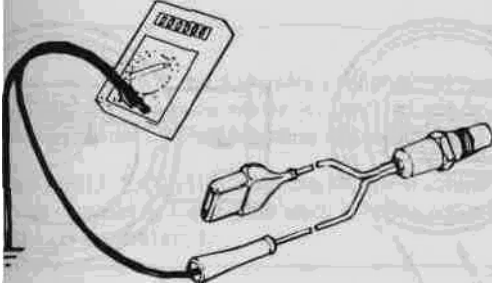

Fig. 21. Oxygen sensor output voltage being checked (shown schematically). Sensor should be installed and the engine should be running,
- Connect the positive lead of a voltmeter to the black wire coming from the sensor and connect the negative meter lead to chassis ground. See Fig. 21. Start the car and let it idle. The oxygen sensor should start to produce a fluctuating voltage within a short period.